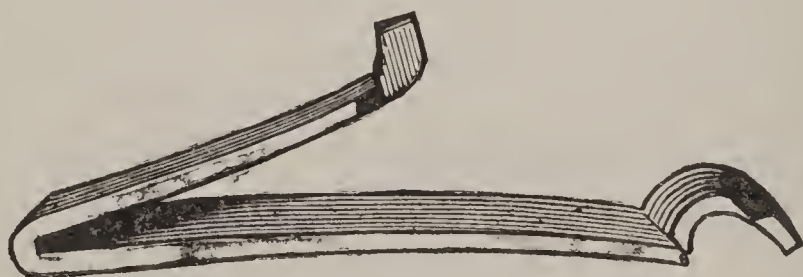
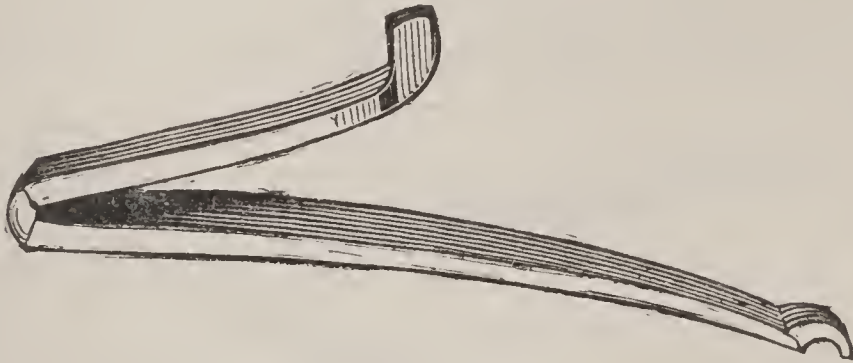

FIGURE 54.
FIGURE 55.
*Mainsprings.*—Mainsprings are made for right and left side locks, and are known as right and left. Very few gunsmiths make these springs, as they are kept in stock and can be purchased of the dealers at any time. Fig. 54 is called the forward or side-action hook spring; Fig. 55 the forward or side-action swivel, and are used in bar locks.